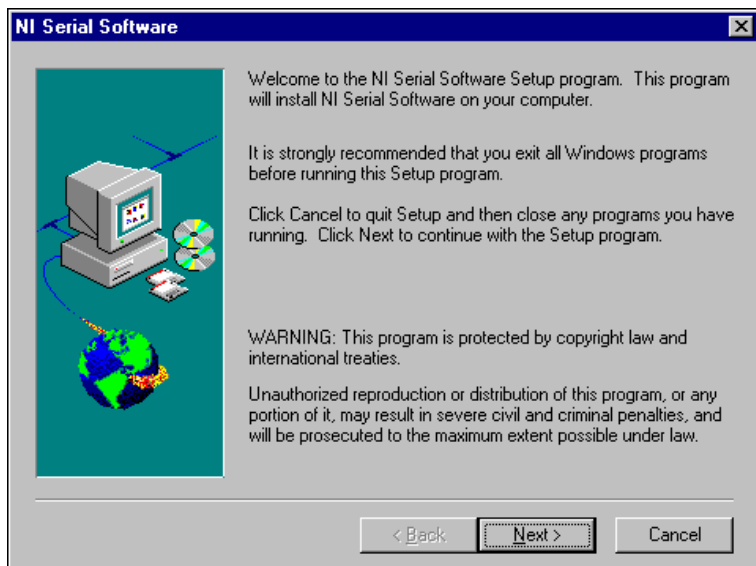

Figure 2-2. NI-Serial Setup Screen
4. When prompted, insert the *NI-Serial Software for Windows 2000/NT/Me/9x* CD and click on the **Next** button. The setup wizard begins with the screen shown in Figure 2-2.